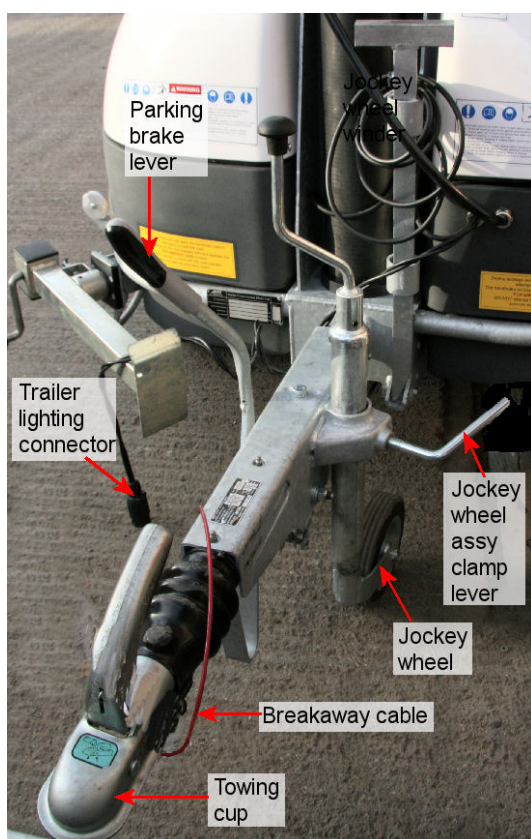

Fig 1-2 Parking brake
1. Apply the parking brake by pulling up the lever (Fig 1-2). The mast cannot be raised unless the brake is on.